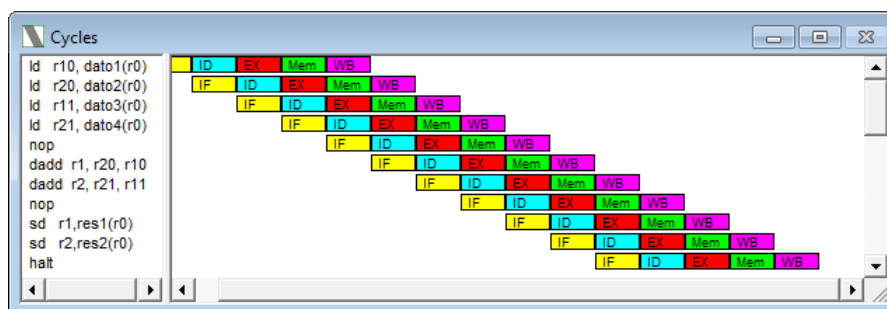

Figure 2.3: WinMips64 clock cycle window
- **Clock Cycle Diagram** (figure 2.3): Shows the evolution of the pipeline. Each row-column combination contains a label identifying the stage of the pipeline.